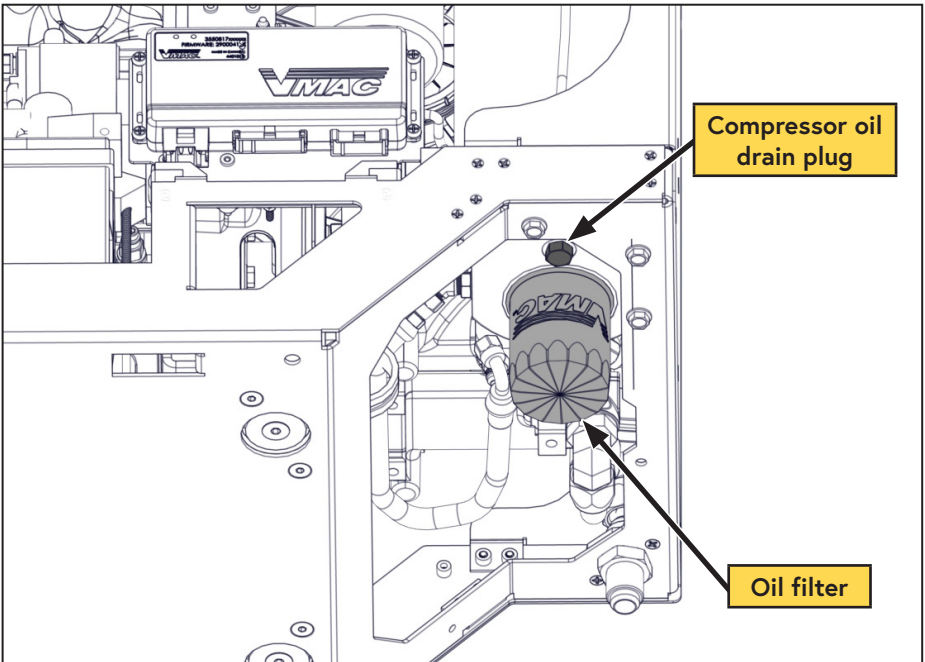

Figure 2 — Drain compressor oil
- Remove the oil drain plug and drain the oil into a container with a capacity of at least 1.3 USG (5 L) (Figure 2).
- Remove the oil filter (Figure 2).